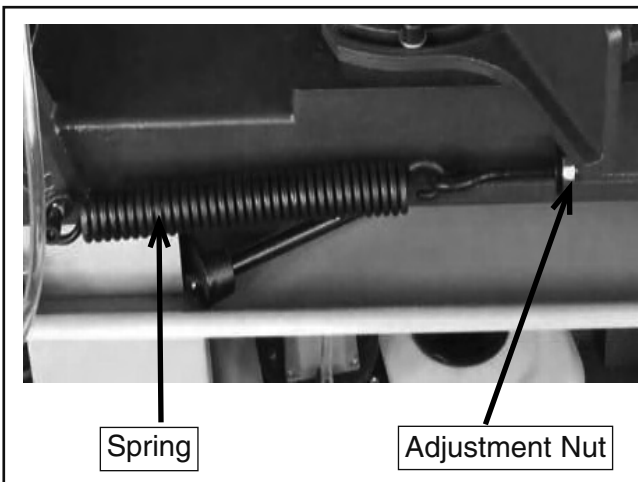

Figure 20. Location of adjustment nut.
2. Adjust feed pressure tension spring by rotating adjustment nut (see **Figure 20**). Tighten enough to remove play but not enough to apply tension to spring.